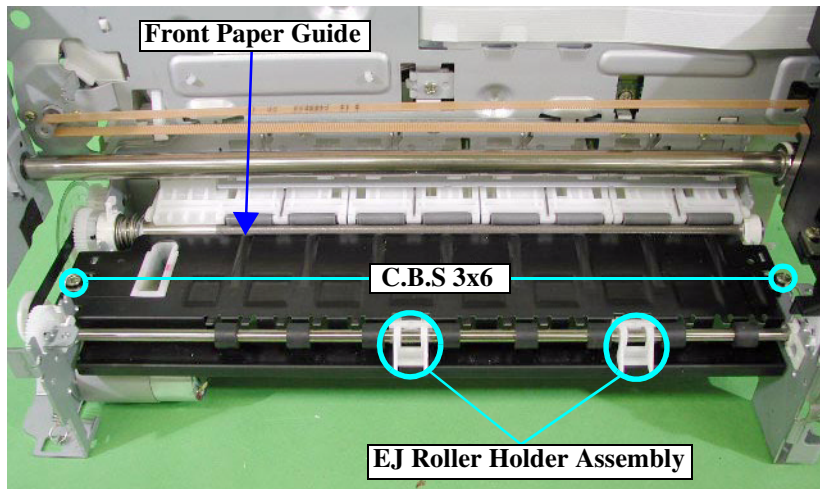

Figure 4-52. Front Paper Guide Removal
2. Remove the two EJ Roller Holders Assembly. (Refer to Figure4-52)
3. Remove the two screws (2) (CBS 3x6 {8±1 kgf.cm}) that are securing the Front Paper Guide.